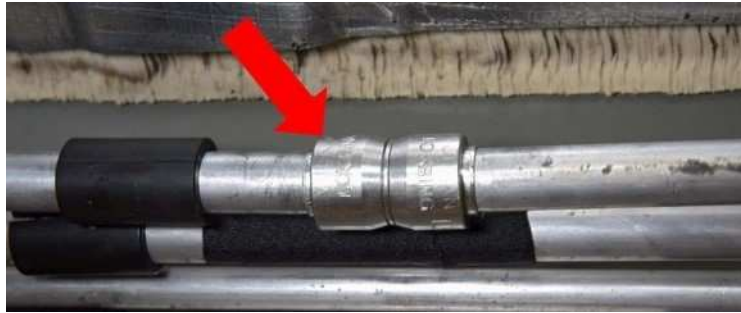

Fig. 7
11. Using **coupling P/N 05069003AA**, **outlet coolant tube splice P/N 68319146AD** and the original rear heater coolant return tube on the vehicle cut in the previous step, splice the tubes together (Fig. 7) . Refer to the detailed service procedures available in DealerConnect> Service Library under: Service Info>24 - Heating and Air Conditioning/Plumbing, Rear/Lines, A/C Underbody/Standard Procedure.